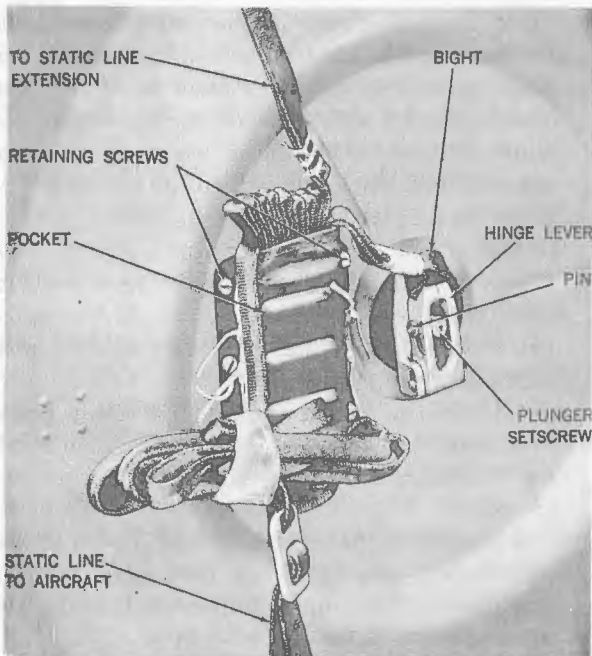

Figure 11-52.—Parachute Static Line Replacement.
3. Inspect the static line for wear, abrasion, or improper assembly. Carefully check the tie cords that hold the static line in the pocket, figure 11-52, to be sure they are not loose. Replace the static line if unsatisfactory. A spare static line is located in the accessory box; instructions follow for replacing the static line.
1. Remove the static line pocket by unscrewing the retaining screws, figure 11-52.